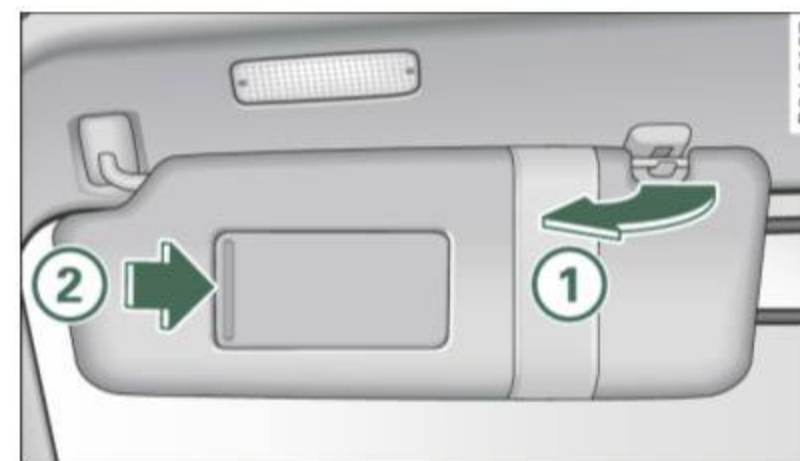

Fig. 58 Sun visor
The sun visors for the driver and passenger can be pulled out of their brackets in the center of the vehicle and turned towards the doors ⇒ fig. 58 ①. After the sun visor has been turned to the door, it can be extended lengthwise.